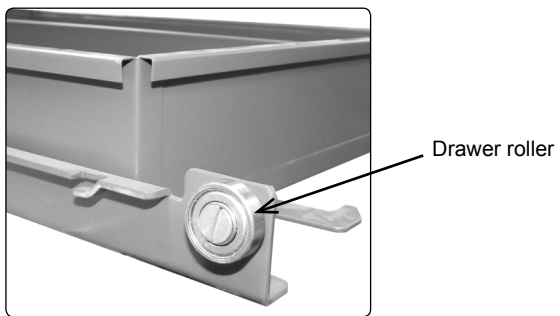

fig.3
- 5.1.3. Lift the drawer and withdraw. See fig.2 for drawer roller path and fig.3 for the drawer roller.
- 5.3.3. Locate the drawer rollers (fig.3) with the enclosure runners (fig.2) and slide the drawer/drawers fully back into the enclosure. Generally the reverse of removal. **DO NOT** force at any stage.